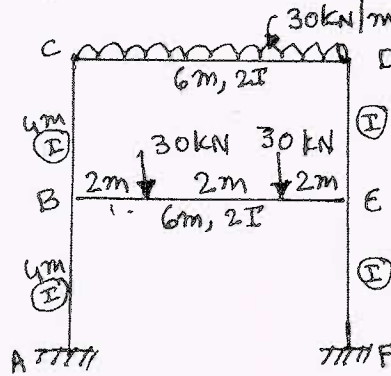

Fig.Q.5
- 5 Analyze the frame shown in Fig.Q.5 using Kani's method. Draw BMD and EC. (20 Marks)